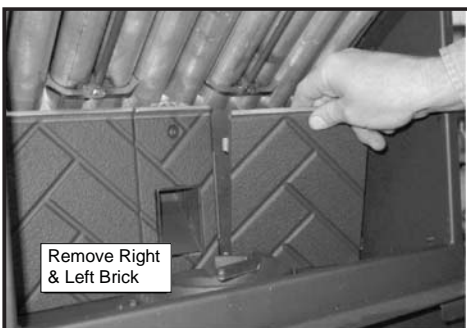

Figure 22.2
3. The top baffle must be removed before you can remove the right and left brick. Remove the right brick by holding top lip of brick and lifting up, then push outside edge back. Slide brick to the right until it is flush with the firebox. Rotate the inside edge of the brick forward and remove brick. Repeat for left brick. **Figure 22.2.**